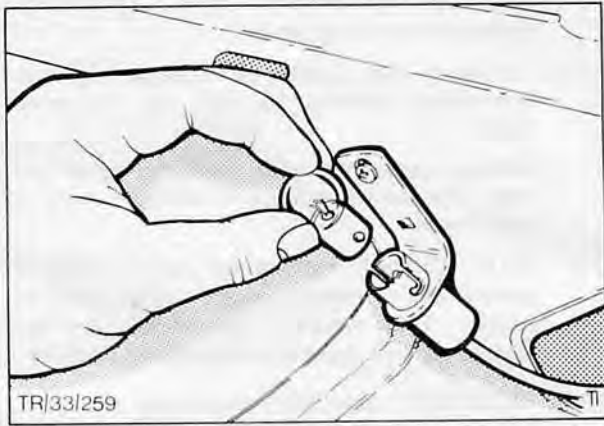

Fig. 11. Removing bulb
- Unplug bayonet-type bulb from its socket, Fig. 11.